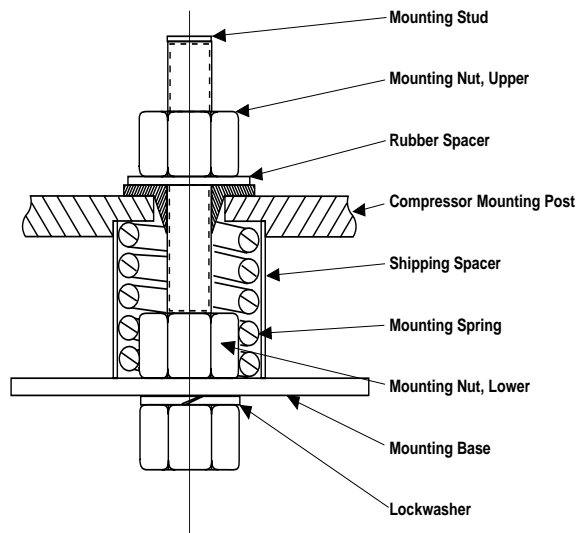

Figure 2. Compressor Mounting Assembly
5. When the unit is securely installed, loosen the compressor mounting studs and remove the shipping spacer. See Figure 2. Insert rubber spaces into the compressor mounting holes. Spacers are shipped in the high voltage control compartment.